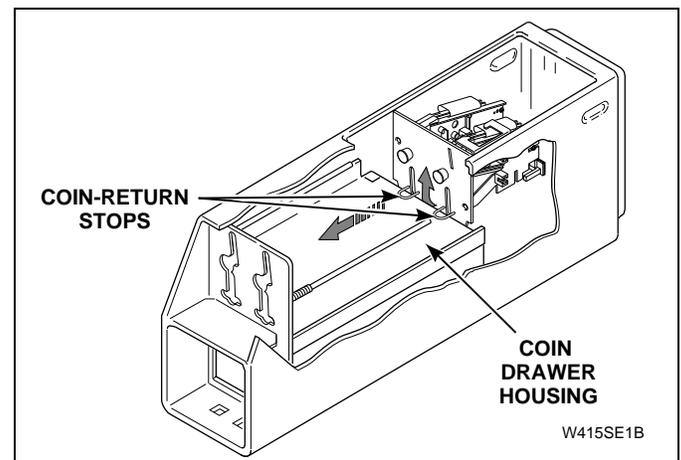

Figure 21
- (3.) Rest the two coin-return stops on top of the coin drawer housing, as shown in *Figure 21*.